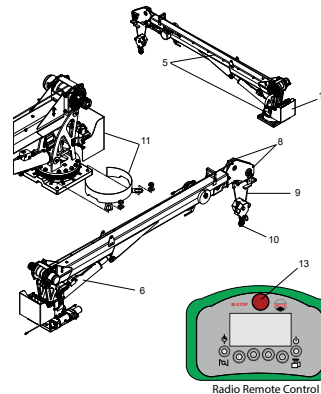

Figure 3
**NOTE:** Items 1, 2, 3, 4, 7, 14 of the Pre-Operation Inspections are not shown in Figure 3.